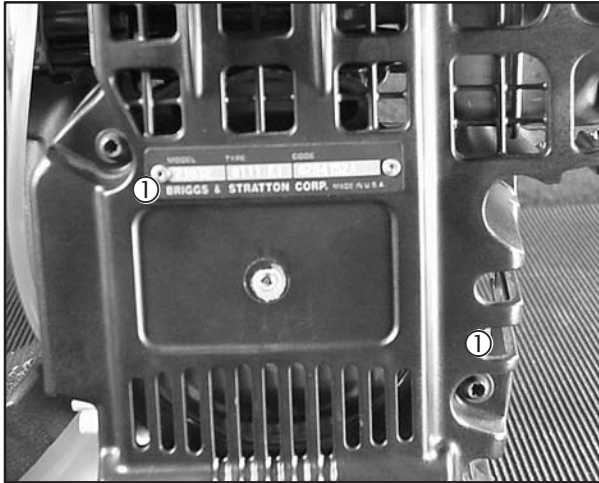

Fig. 31
3. Install cylinder shield. Torque screws (1) to 40 in. lbs. (5 Nm), Fig. 31.